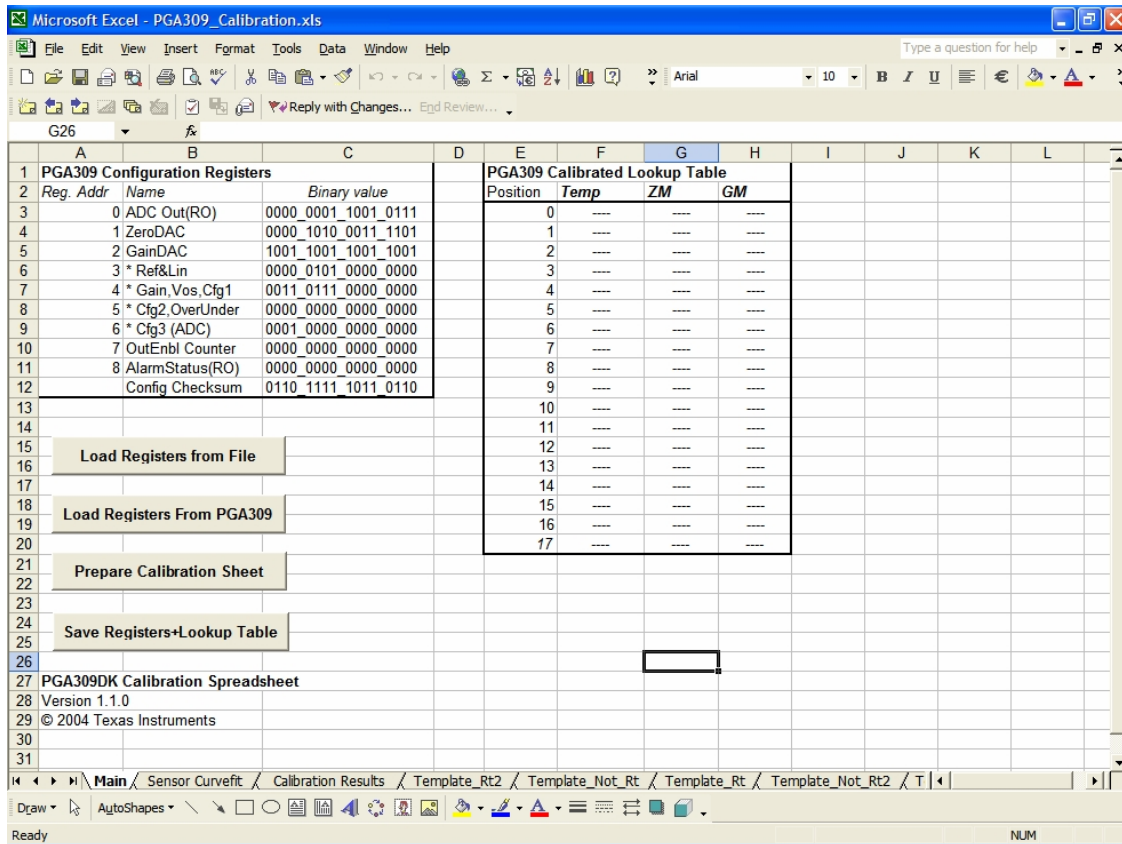

Figure 34: “Main” Worksheet
1) The “Main” Worksheet is shown in Figure 34. It contains the current values of the PGA309 register table, the lookup table and the control buttons.